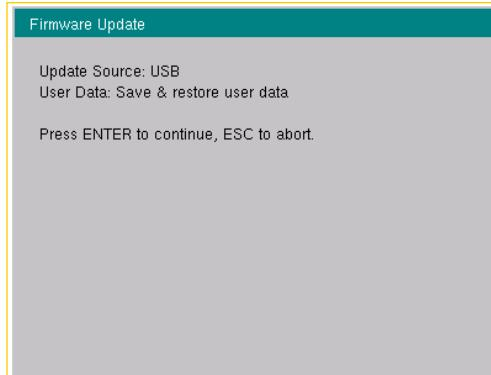

Figure 5-11. Firmware Update Menu
7. The Firmware Update dialog will query you to confirm the process by pressing **Enter** to continue or **Esc** to abort (Figure 5-11).